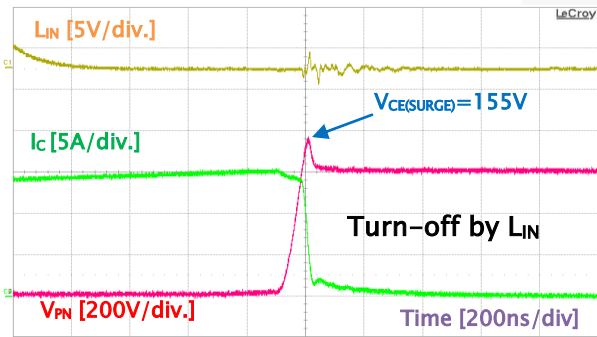
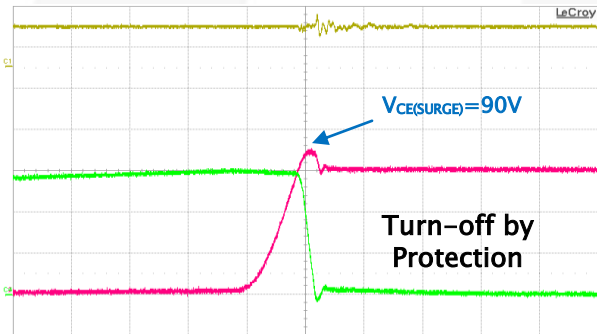

Figure 28. Turn-Off by Input (FNA21012A, Ref. Condition: $V_{DC}=600\text{ V}$, $T_J=25^\circ\text{C}$)
Figure 29. Turn-Off by Soft Off Function (FNA21012A, Ref. Condition: $V_{DC}=600\text{ V}$, $T_J=25^\circ\text{C}$)
An internal block diagram of LVIC and operation sequence of soft turn-off function is shown in Figure 28 and Figure 28. This function operates by two internal protection functions (UVLO and SCP). When the IGBT is turned off in normal conditions, LVIC turns off the IGBT immediately by turn-off gate signal (IN(xL)) via gate driver block. Pre-driver turns on output buffer of gate driver block(path ①). When the IGBT is turned off by a protection function, the gate driver is disabled by the protection function signal via output of protection circuit (disable output buffer, high-Z) and output of the protection circuit turn-on switch of the soft-off function. V_{GE} (IGBT gate-emitter voltage) is discharged slowly via circuit of soft-off (path ②).
Figure 28 and Figure 29 show normal turn-off switching operations performed satisfactorily at a $V_{DC}=800\text{ V}$ with the surge voltage between the P and N pins ($V_{PN(Surge)}$) limited to under 1000 V. The difference between the hard and soft turn-off switching operation is also shown in Figure 28 and Figure 29. The hard turn-off of the IGBT creates a large overshoot (155 V). The DC-link capacitor supply voltage should be limited to 800 V to safely protect the 1200 V Motion SPM 2. A hard turn-off, with a duration of less than $\sim 2\ \mu\text{s}$, may occur in the case of a short-circuit fault. For a normal short-circuit fault, the protection circuit becomes active and the IGBT is turned off softly to prevent excessive overshoot voltage. An overshoot voltage of $<100\text{ V}$ occurs in this condition.
Figure 28 shows the I/O interface circuit between the MCU and Motion SPM 2. Because the Motion SPM 2 input logic is an active HIGH and there are built-in pull-down resistors, external pull-down resistors are not needed.
- I_{Leak} : circuit current = 4.5 mA (For FNA21012A, refer to the Figure 28)